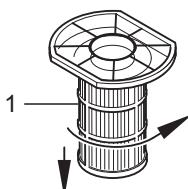

Fig.21
4. Remove the filter grid (Fig. 21/1) that protects the central laminar filter against coarse dirt. To do this, turn the filter grid in the direction of the arrow and remove it from below.